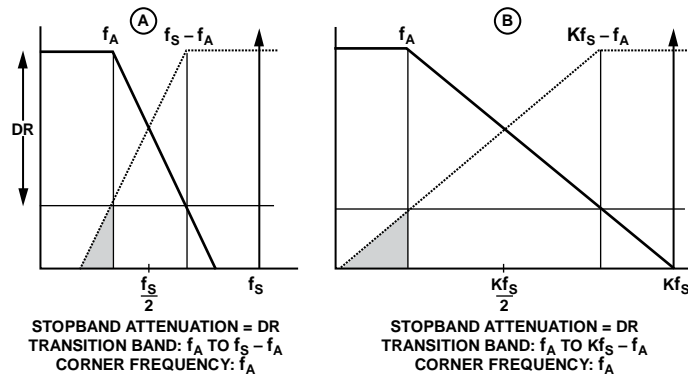

Figure 25. Oversampling Relaxes Requirements on Baseband Antialiasing Filter
Figure 25 illustrates the requirements for an antialiasing filter for a baseband signal with a maximum frequency f_a , given a desired dynamic range of DR. This is a worst-case condition, because it assumes that full-scale signals can occur outside the bandwidth of interest, which is rarely the case. However, it is a good starting point.
The dotted regions indicate where the dynamic range can be limited by signals outside the bandwidth of interest. The requirements on the filter can be quite severe, especially if f_s is not much greater than $2f_a$, as shown in (A) in Figure 25.
Therefore, many systems rely on oversampling as shown in Figure 25 (B) to relax the requirements on the analog anti-aliasing filter. Sigma-delta converters are a good example of oversampling. Outputs of DACs are filtered with so-called "anti-imaging" filters that serve essentially the same purpose as the antialiasing filter in front-end of an ADC.